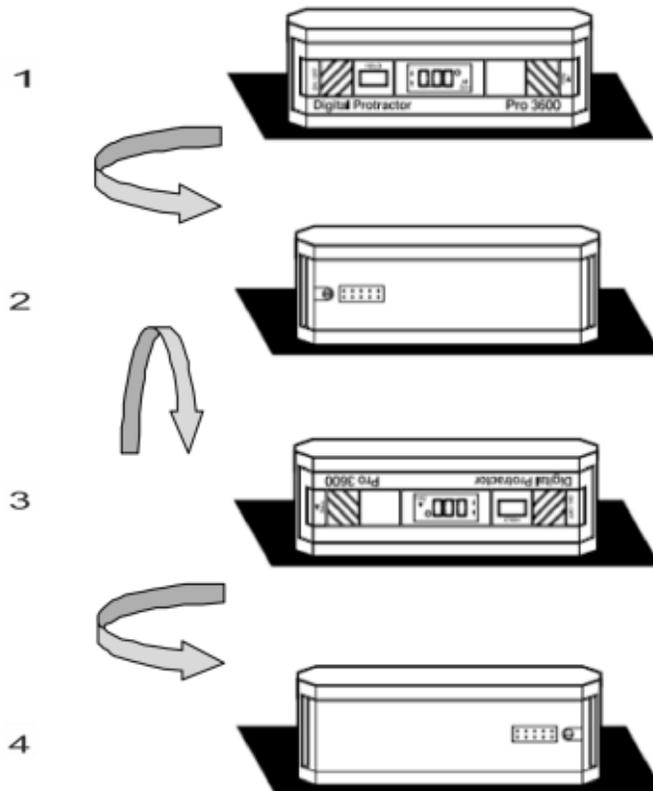

Figure 91
- ⇒ **Figure 91 -Step 1-** – Position the camber scales on a level surface with the display facing in your direction. The surface does not need to be exactly horizontal. Switch on the camber scales and wait for 10 seconds. Note the value displayed.
- ⇒ **Figure 91 -Step 2-** – Turn the camber scales horizontally by 180 degrees (display is pointing away from you). Wait 10 seconds and take note of the value displayed.
- ⇒ **Figure 91 -Step 3-** – Now turn the vertical camber scale by 180 degrees (display points in your direction, balance is overhead). Wait 10 seconds and take note of the value displayed.
- ⇒ **Figure 91 -Step 4-** – Finally, turn the camber scales once again horizontally by 180 degrees (display is pointing away from you, scale is still overhead). Wait 10 seconds and record this value.